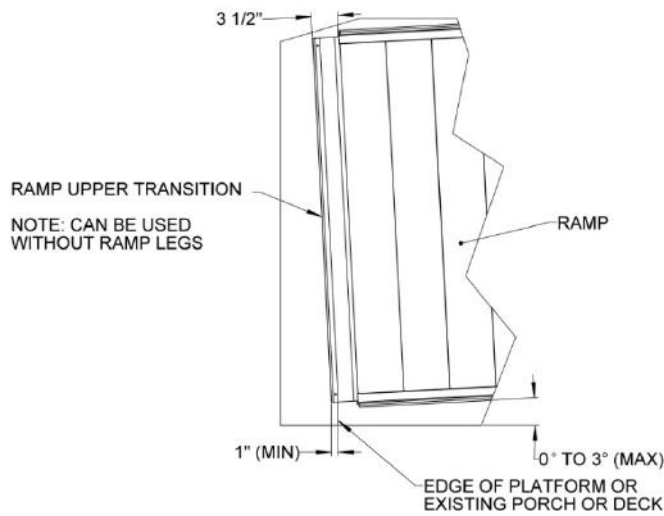

FIG. 3.18
- 3.7.1. Angles up to approximately 3° can be accommodated using the PRUT (RAMP UPPER TRANSITION) as long as the PRUT (RAMP UPPER TRANSITION) overlaps the surface of the platform, porch or deck by at least 1" (FIG. 3.18).